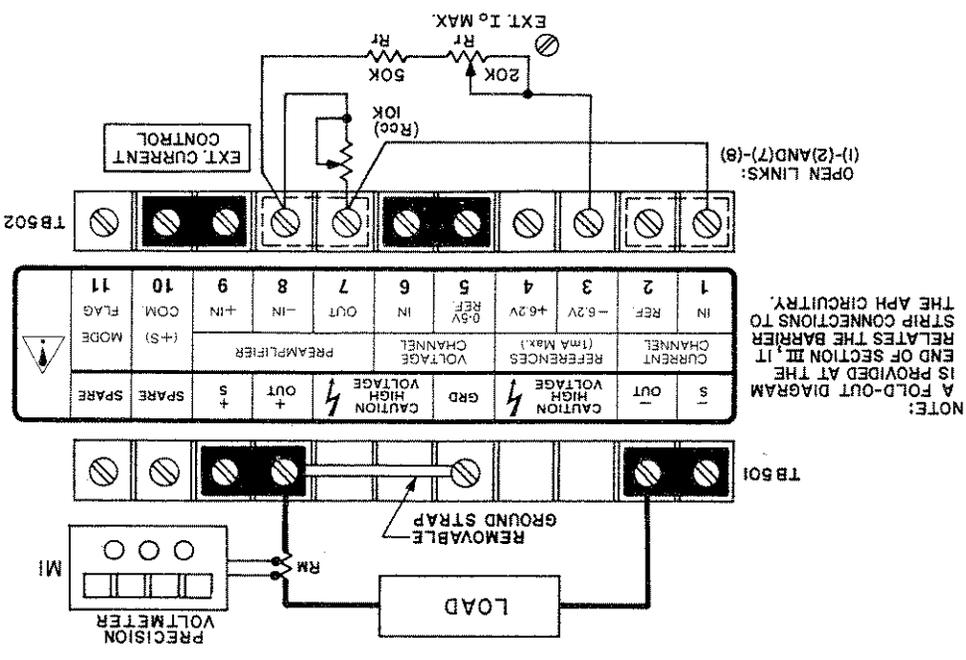

FIG. 3-8 CONNECTIONS FOR APH OUTPUT CURRENT CONTROL WITH A TWO-TERMINAL RESISTANCE.
- 1) Connect the selected EXT. CURRENT CONTROL resistance, the calculated reference resistor (R_r), the LOAD and the OUTPUT CURRENT METER (M_1) to the APH as shown in FIG. 3-8. NOTE: R_r should be divided into a fixed component and a calibrating rheostat (50 K and 20 K in the example).
NOTE: The output current value can be measured directly by means of a suitable milliammeter in series with the load, or as indicated in FIG. 3-8, indirectly by means of the precision voltmeter across a current measuring resistor (R_M). (R_M) should be selected such that a convenient range on the precision voltmeter can be used, e.g., for a 10 milliamperere output current, use a 100 ohm resistor to produce one volt full scale. If an electronic voltmeter is used, it should be battery-operated to avoid ground loops.